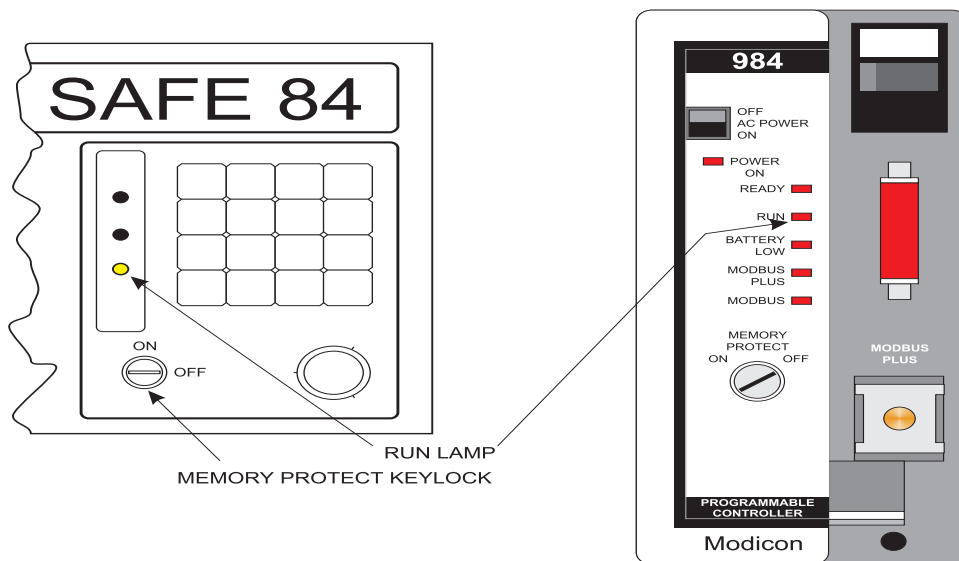

Figure 3-5
- Press the <Proceed> software label key. Verify that the run light goes out on the processor. See Figure 3-5.